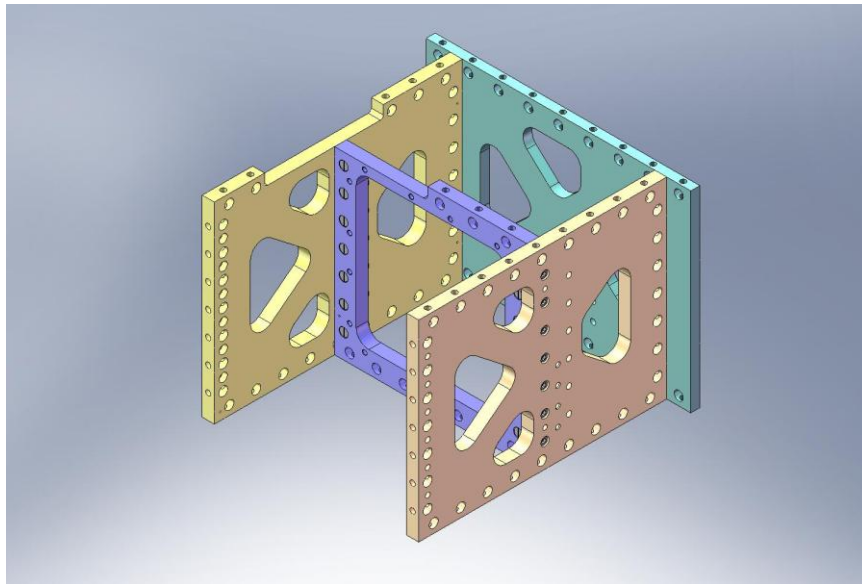

Figure 2.24. Step 2 of Boxwork Assembly. Center-Tangential Rib is placed against the Radial Ribs.
- Push **Rib, Tan, Flexure Cen** plate (D071070) onto ends of the two **Radial Ribs** (D071068 and D071069), as shown in Figure 2.24. Make sure pins seat properly into mating holes and slots.